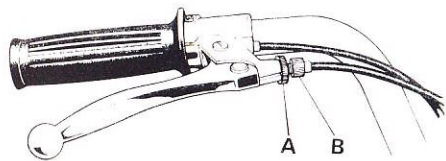

Figure 12
The front brake is adjusted to take up excess play by slackening the locknut (A) and turning the knurled adjuster (B) shown in Fig. 12. Take care that after adjustment the wheel turns easily without binding. If the brake binds through over-adjustment, slacken off until the wheel will turn easily then retighten the lock nut. Binding of the brake will reduce fuel economy and in extreme cases can cause damage to the brake and wheel bearings. When all adjustment has been used, slacken off the handlebar adjuster completely and take up excess play at the brake end. Further adjustment may then be made at the handlebar control in the normal way.